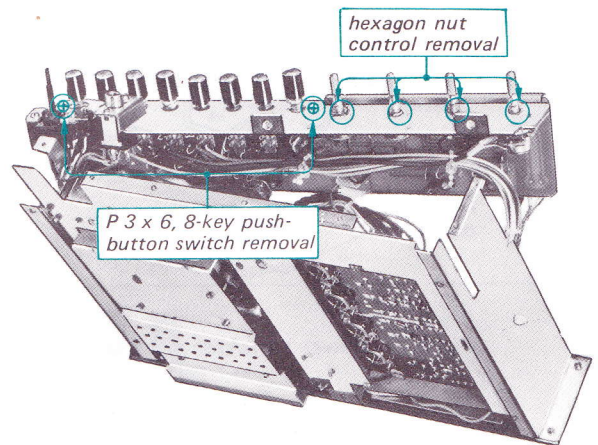

Fig. 2-5. Switch and control replacement
3. Remove all the nuts or two screws, securing the switch bracket or controls to the front subchassis as shown in Fig. 2-5. This frees preamplifier board.